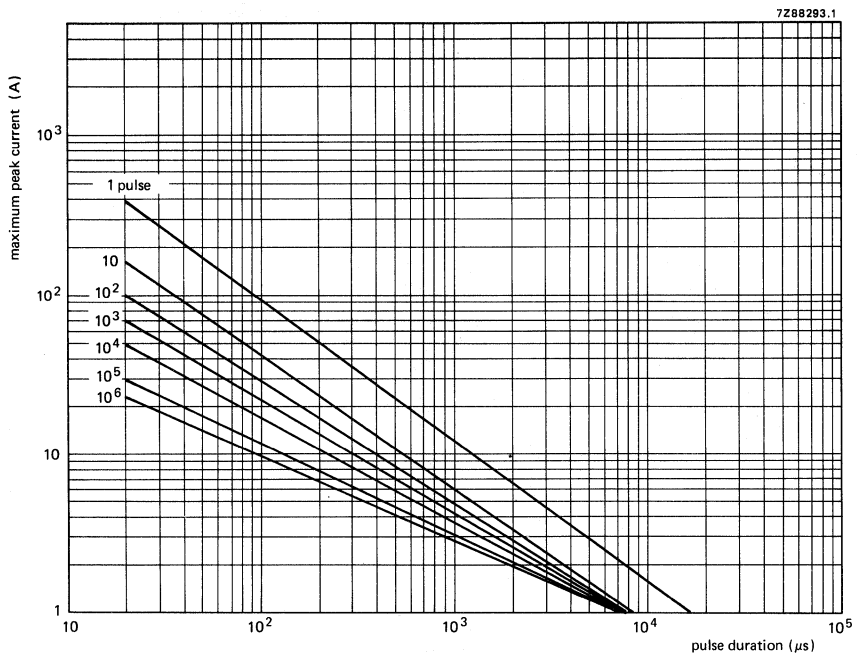

Fig. 3 Max. applicable transient current as a function of pulse duration.
5. A current impulse of 8/20 μ s (defined in IEC 60-2 section 6) is used as a standard for impulse current and clamping voltage ratings. The transient energy is given for one impulse applied during the life of the component. Figure 3 gives the derating for different numbers and longer duration of impulses. The shift of the varistor voltage does not exceed $\pm 5\%$.